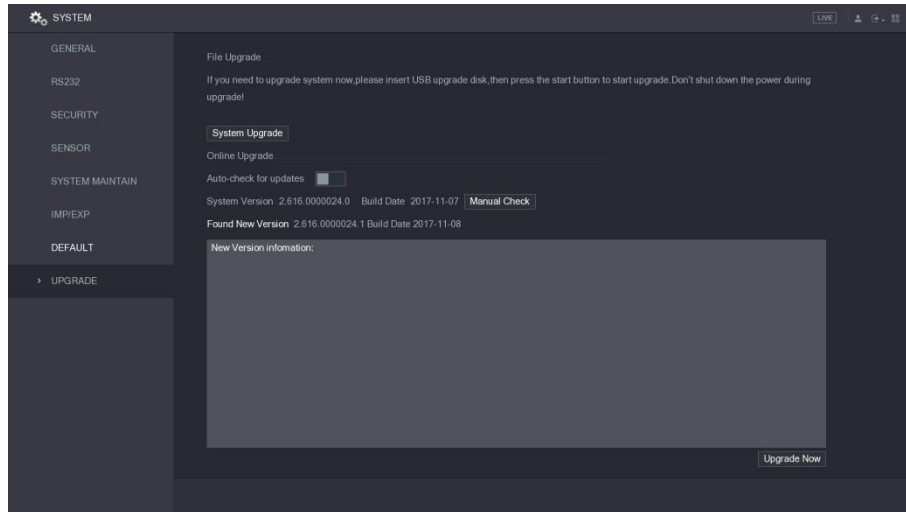

Figure 5-236
- If the text indicating there is a new version, please go the step 3. See Figure 5-236.